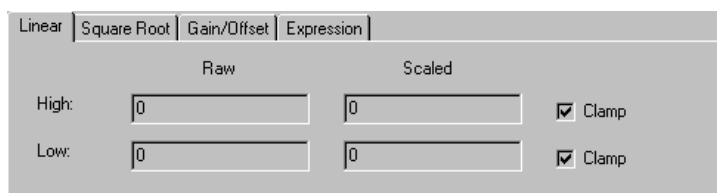

Figure 49 - Insert New Alias Window Scaling Options
The **Insert New Alias** window can be expanded to display **Scaling Options** (Figure 49). The available forms of scaling include: **Linear**, **Square Root**, **Gain / Offset**, and simple text **Expressions**.
8. The **Scaling Options** are displayed at the bottom of the **Insert New Alias** window (Figure 49).
5. Click on the **Scaling** button to enable scaling for the alias. The **Scaling Options** are displayed at the bottom of the **Insert New Alias** window (Figure 49 - Insert New Alias Window Scaling Options